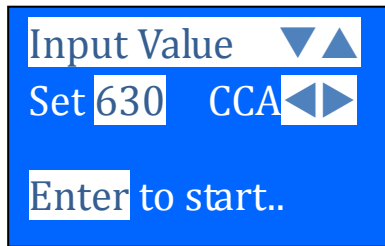

Figure 22
12. To enter the value 630, press  key will increase the original value of 500 (Fig.21) by step of 100 units to 600. Likewise use  key to increase the last two digits (00) to 30 by step of 5 units for each pressing. (Fig. 22)